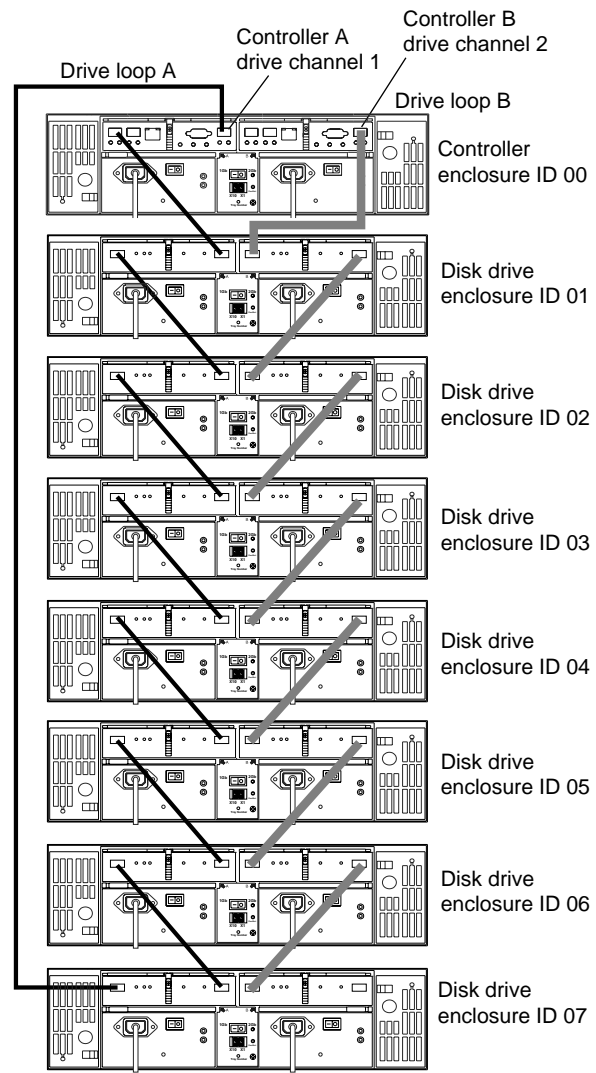

Figure 5-5 Drive Loop Cabling for Systems with Eight Enclosures
- 5. Repeat step 4 to add up to seven expansion enclosures to the drive loop (see Figure 5-5).